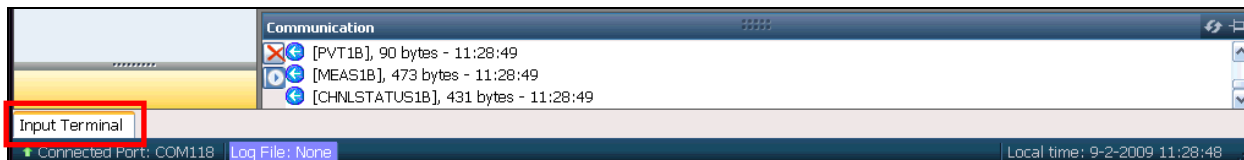

Figure 6: Input Terminal Window Hidden
1. Click  to hide the window. The window closes and a tab with the name of the hidden window, for example, *Input Terminal*, appears in the lower left corner of the GUI (see Figure 6).